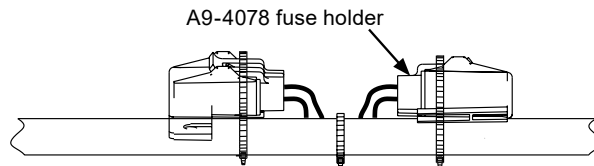

Figure 4: Secure Fuse Holder Assemblies to Harness Cable
4. Secure A9-4078 fuse holder assemblies to harness with cable ties. See Figure 4.